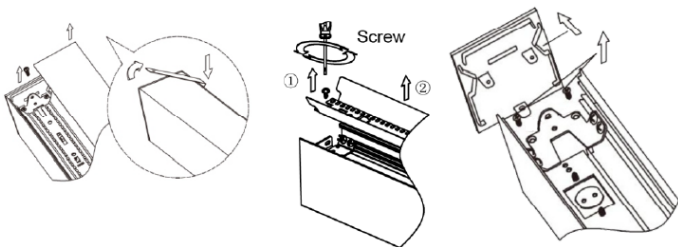

Fig. 14
1. Remove lens and LED reflector strip. Loosen the screws to remove end cap. (Fig. 14)